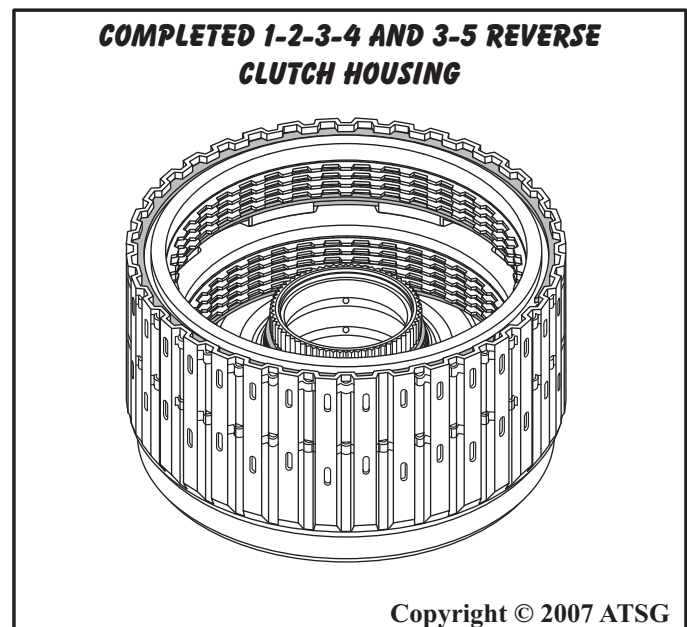

Figure 104
37. Set the completed 1-2-3-4 and 3-5 reverse clutch housing aside for final assembly. (See Figure 104).